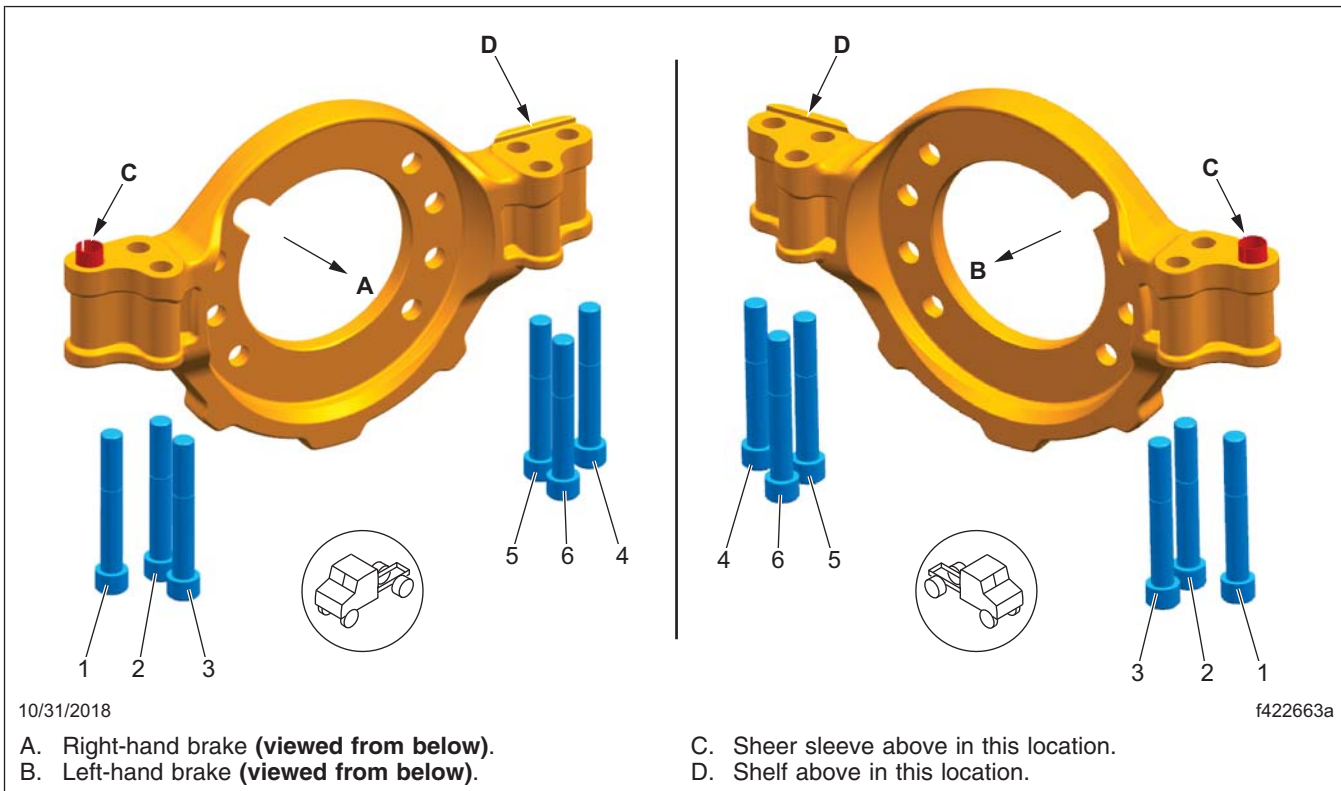

Fig. 7, Bendix Radial Mounted Caliper Tightening Pattern (viewed from below)
4. Set a torque wrench to 200 lbf·ft (271 N·m) and tighten the caliper mounting bolts following the tightening pattern shown in Fig. 7. If they do not turn, no further work is needed. If they turn, take the vehicle to an authorized Freightliner dealer to have all of the caliper bolts on that wheel end replaced.